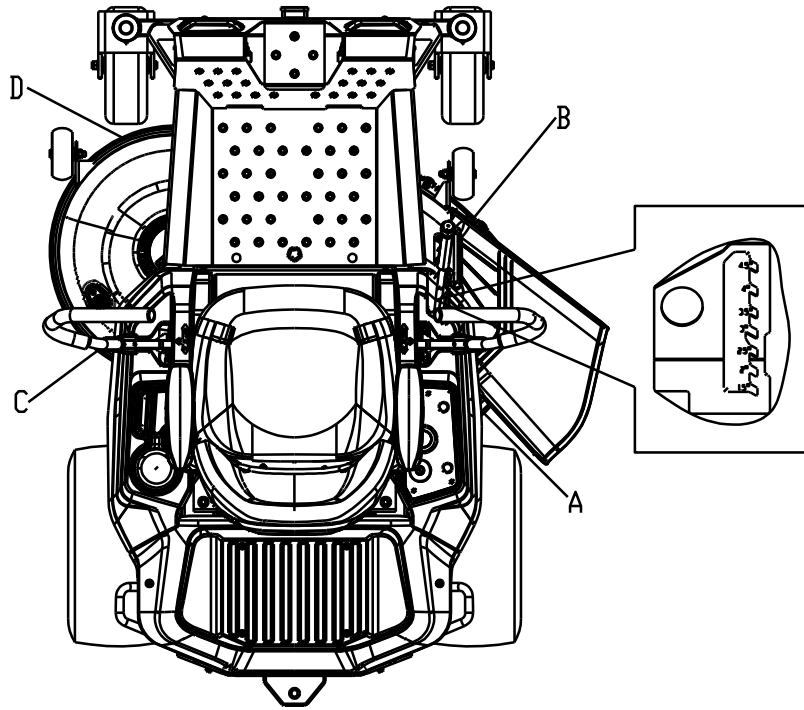

Fig. 5
- Drive the machine to a level ground, put the header height limit pin in the lowest position, which is 1.5 inch position hole (as shown in Fig.5 below).
- Loosen the nut (17) and adjust the nut (16) and the nut (18): clockwise increases the cutter height and counterclockwise decreases the cutter height.
- Use a tape measure to measure the clearance above the ground at the four corners of the header (A, B, C, D in Fig.5)
- Use two 18mm open-end wrenches to roughly adjust the two nuts (16) and (18) to lift A, B, C, and D off the ground at roughly the same height.